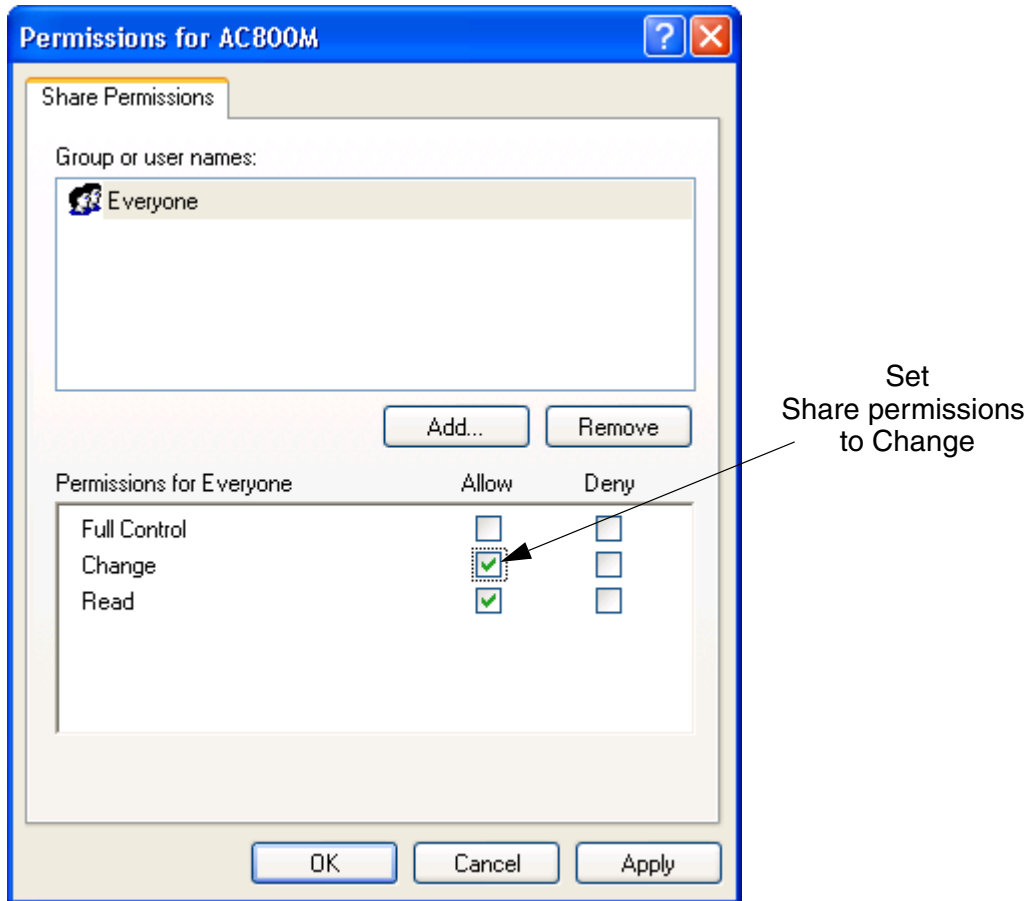

Figure 69. Share permission dialog for the shared project folder AC800Mproject.
5. Click the **Permission** button to open the permission dialog (Figure 69).